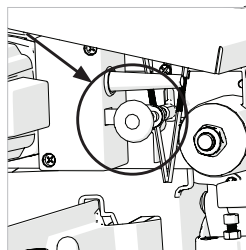

Fig. 6
- Pull out the Cutting Head Latching Pin and allow the Cutting Head to rise to its upmost position. **(Fig. 6)**